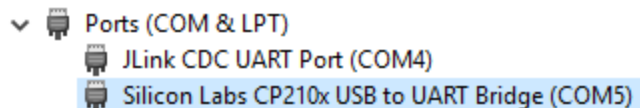

Figure 8. RSL10 Dongle COM Port Number
2. Use the Windows Device Manager to find the COM port number assigned to your RSL10 Dongle, identified by the Silicon Labs USB to UART Bridge (COM5, in the example in the figure "RSL10 Dongle COM Port Number" (Figure 8)):